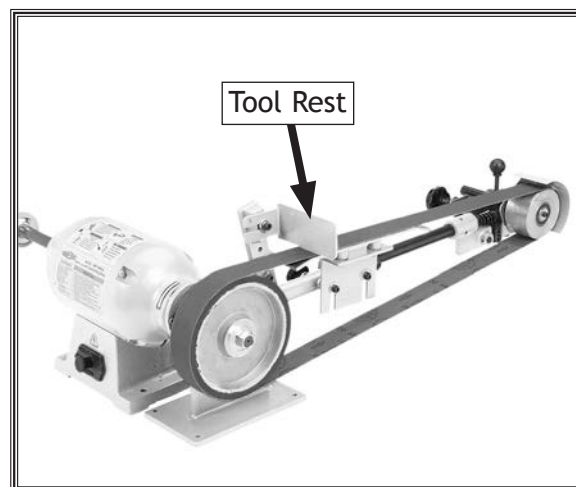

Figure 27. Sanding arm assembly in the horizontal position.
The sanding arm assembly tilts to a horizontal position, as shown in **Figure 27**. This arrangement is more convenient for certain types of sanding or grinding operations.
4. Adjust the tool rest in the position (see **Figure 27**) that is correct for your operation.